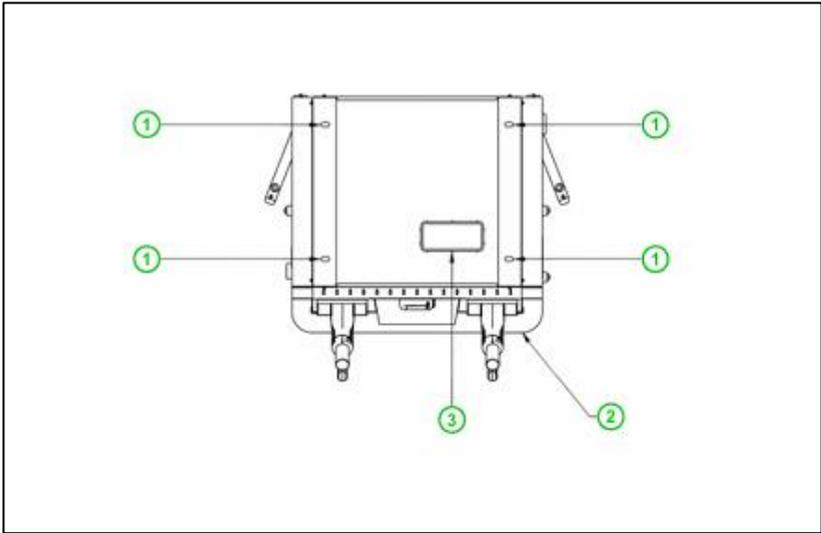
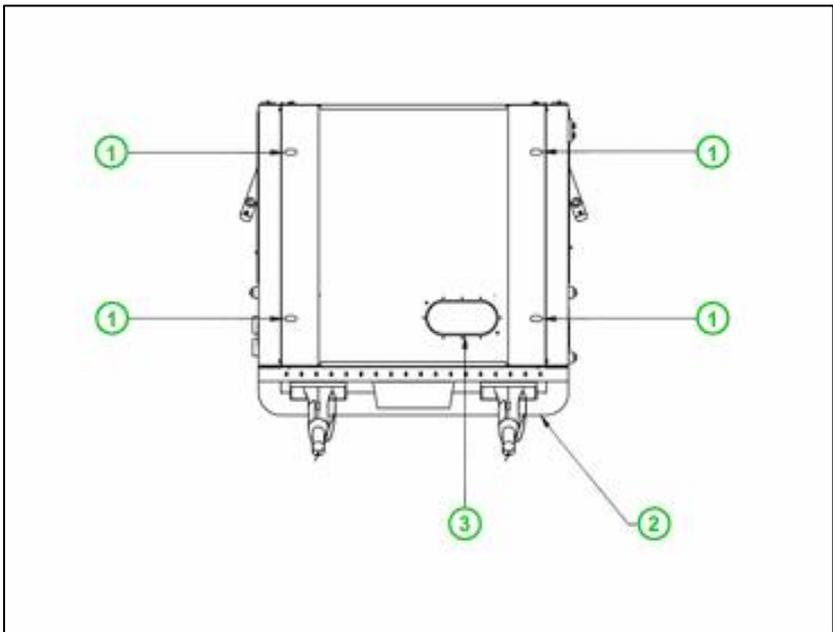

Figure 2.5.3 Drilling position at the end of 120~180 kW AC incoming line
Figure 2.5.6 Drilling position at the end of 240~480 kW AC incoming line
③ Please refer to Figure 2.5.3 / Figure 2.5.6 for the drilling position at the bottom of incoming power line;
④ Lay the power cord in advance, and the multi-core cable shall be peeled off under the foundation. After peeling off AC power cable, the exposed length reserved by foundation shall be no less than 23-5/8 inches (600 mm).